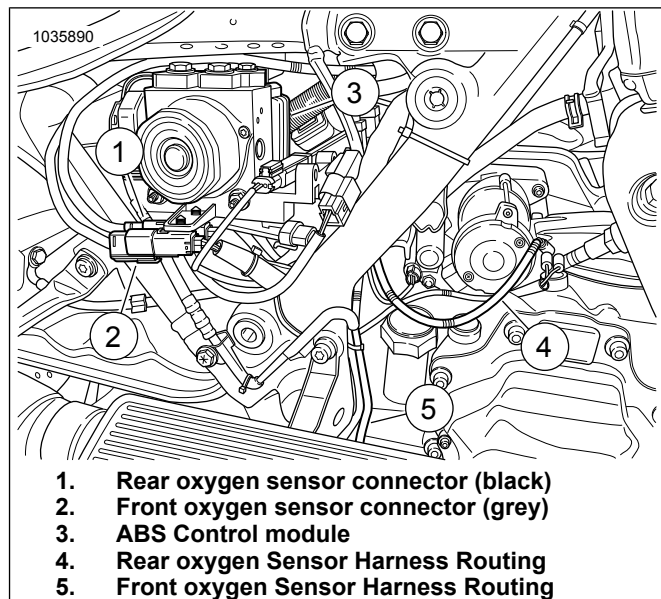

Figure 16. ATM Sensor Harness Routing
16. See Figure 16. **Front oxygen sensor (5, long harness lead):**
- a. From rear sensor, route and secure oxygen harness along top of transmission (4). Install cable straps as needed.